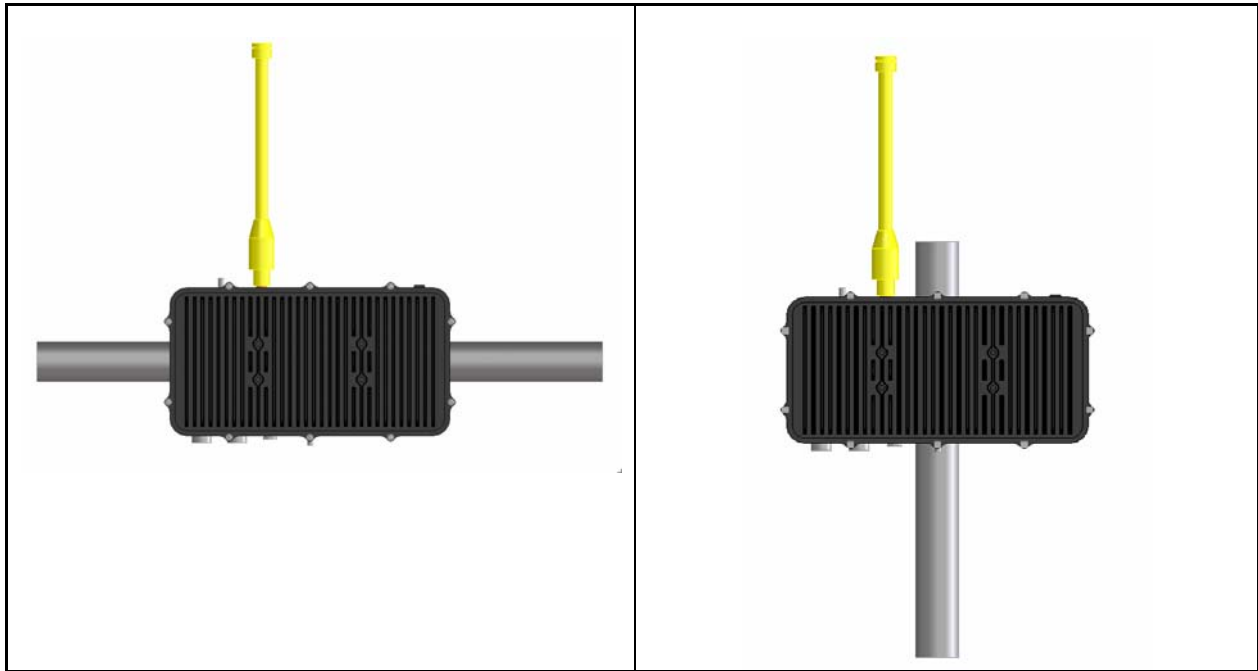

Figure 6-1: Pole Mounting the VIDAMAX Base Station
The VIDAMAX Base Station is designed to accommodate pole mounting. Typically, pole mounting means mounting the base station on a light post (horizontally) or telephone pole (vertically) as shown in Figure 6-1. A kit containing two mounting brackets and hardware for attaching the base station to a pole can be optionally purchased. The bracket accommodates mounting on a pole with a diameter in the range of one (1) to six (6) inches. The installer must provide straps necessary to secure the base station brackets to the pole.